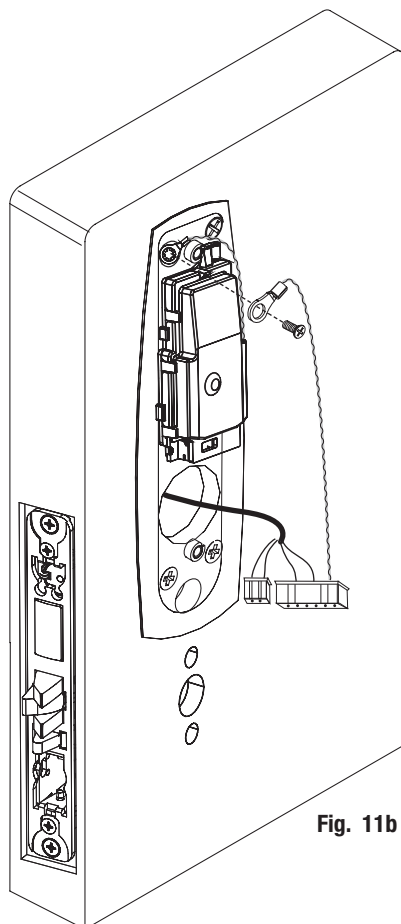

Fig. 11b
- Position two-wire green/yellow ground wire ring terminal over hole for top left screw (Fig. 11b, c).
**IMPORTANT:** Note orientation of ground ring terminals in Fig. 11B-D.